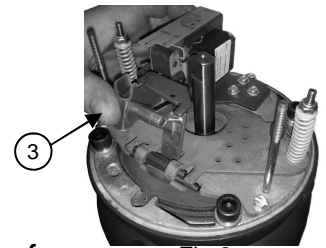

Fig 2
3. Push plunger by hand, it should move easily and come back out on its own (see Fig 2). While depressed, the center shaft should rotate easily and when released, the shaft will not turn.